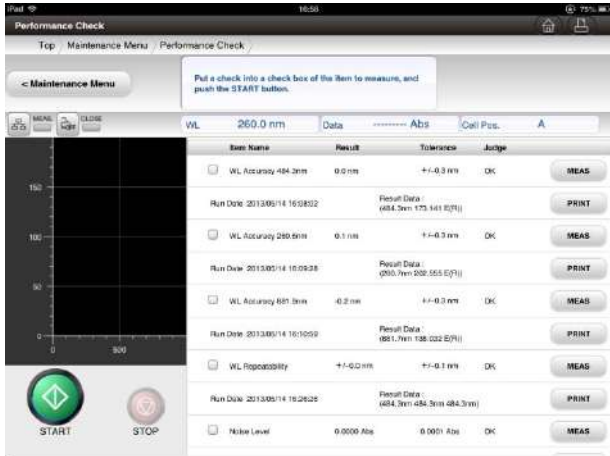

Fig. 6-22 Performance Check Screen
- (1) Display the Performance Check screen (Fig. 6-22). For printing report, open the Performance Check screen checked, and press the  Print button.